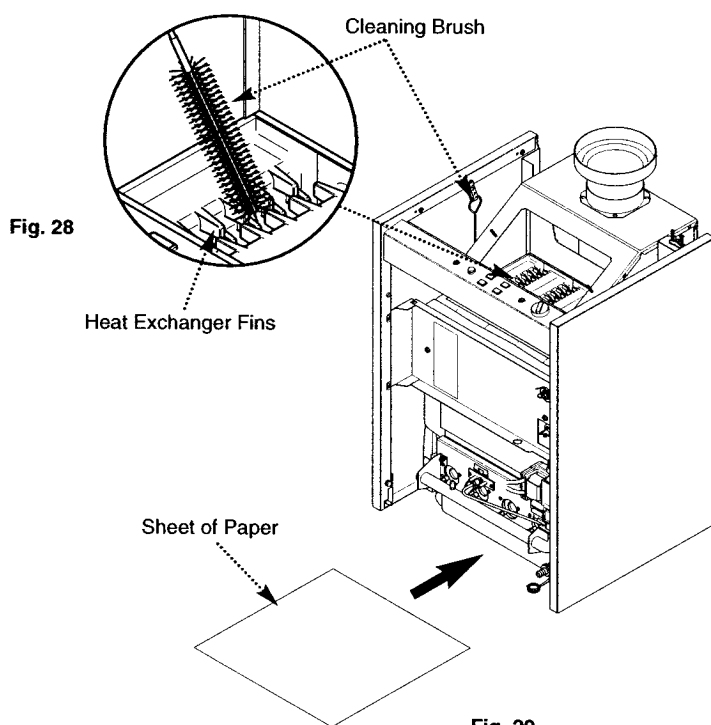

Fig. 29
14. Slide a suitable sheet of paper or cloth under the boiler heat exchanger (Fig. 29).